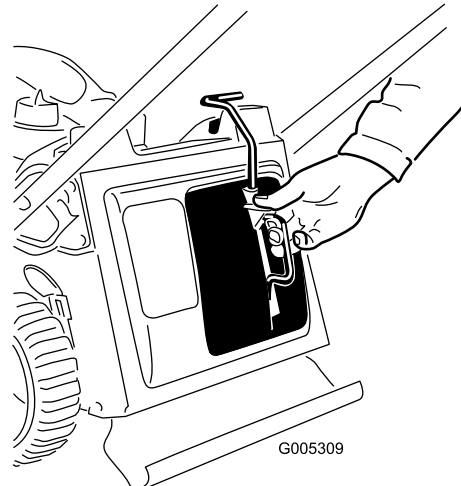
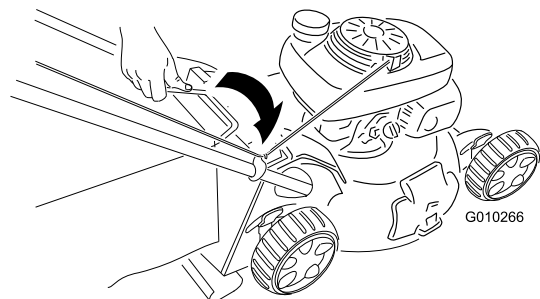

Figure 18
Figure 19
1. Install the mulch plug (Figure 18) or the grass bag (Figure 19) on the mower.